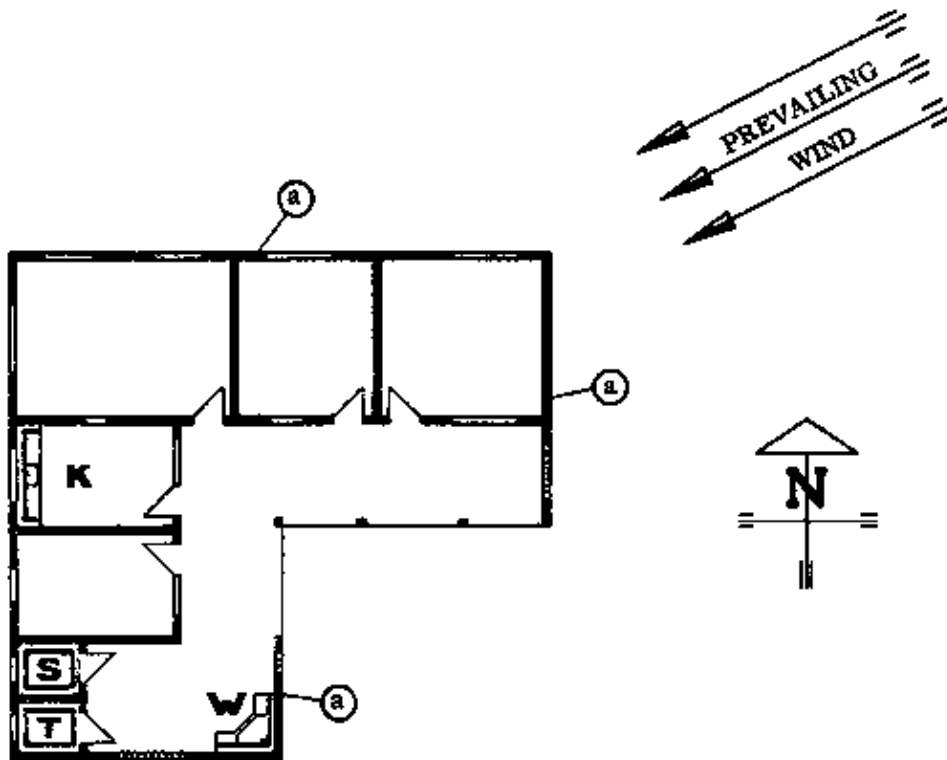

Fig. 1
- All external walls should be covered with render. The sides of the building that face the heaviest weather (in north–western Ghana, this comes from the north–east) should be covered with a somewhat richer mix (Fig. 1, a, next page).
- All so–called wet rooms such as bathrooms, toilets, kitchens, and washing areas should be plastered and painted. (Fig. 1, next page: K = kitchen; S = shower; and W = washing area.)